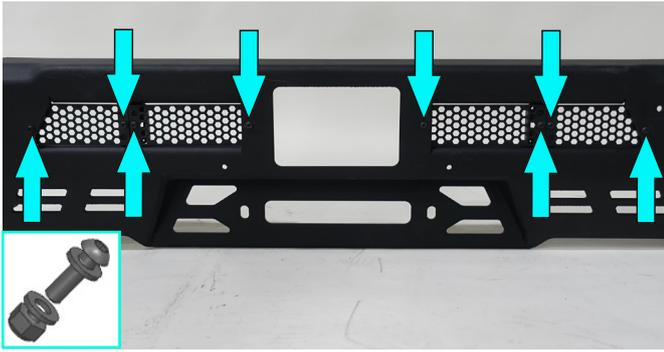

Fig.42
42. Install grilles (item 16, 17) on bumper body as shown in fig. 42. Fix it using screws M6x20, nuts M6 and washers 6 (item A, O, H).